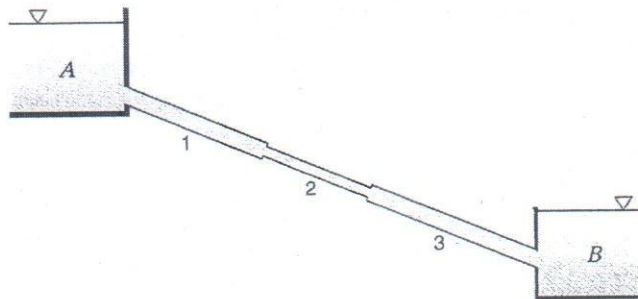

Fig. 1: Pipes in series.
1. (a) Draw a typical energy line diagram for a pipe flow in series, as showing in Fig 1. (05)